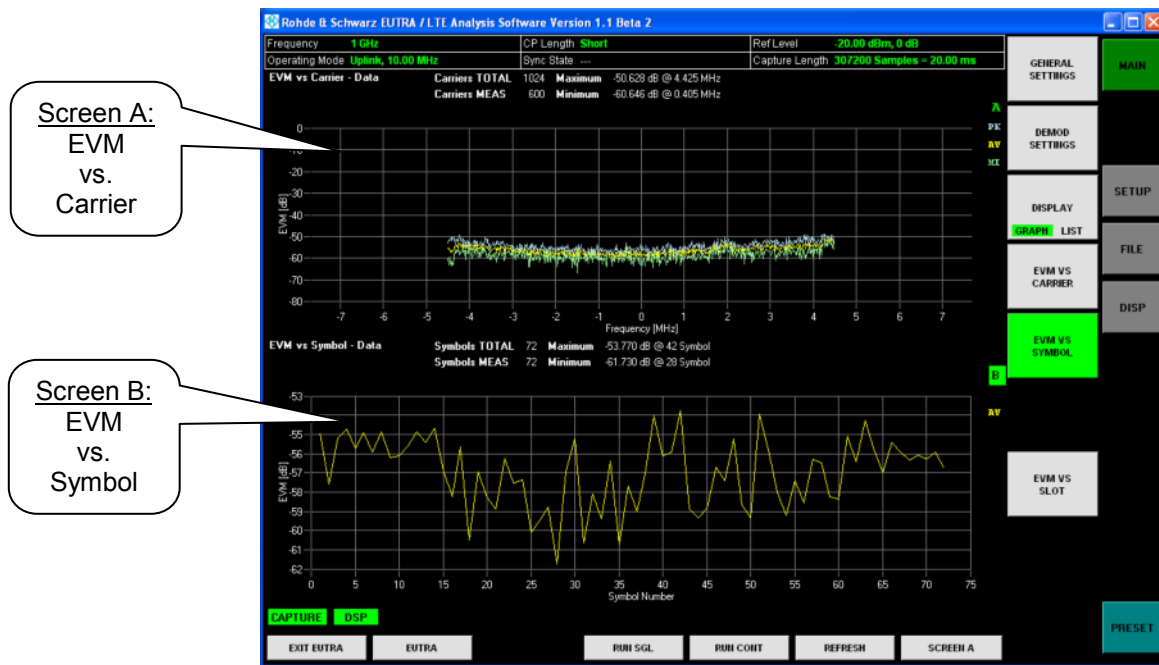

Figure 5-11 Analyzing EUTRA/LTE UL signals – EVM vs. Carrier resp. vs. Symbol
2. EVM vs. Carrier (Figure 5-11: Screen A)
3. EVM vs. Symbol (Figure 5-11: Screen B)